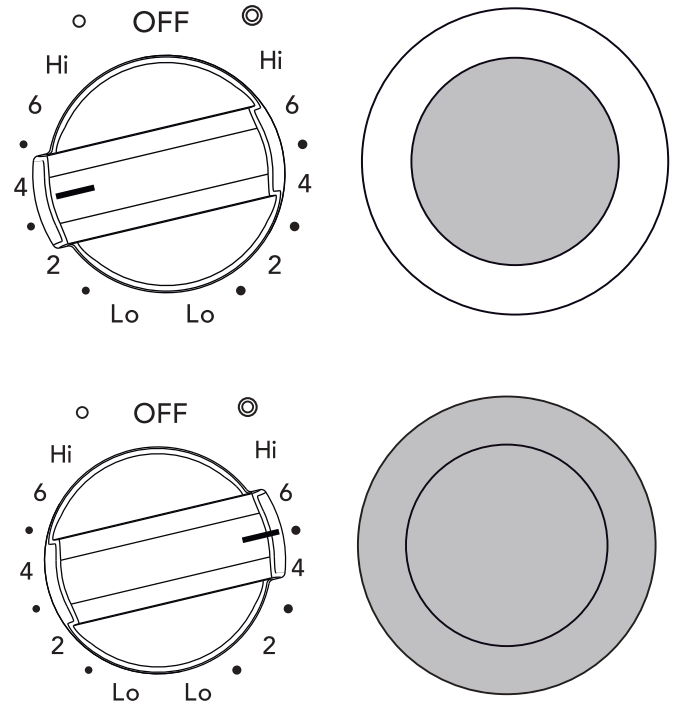

Figure 7: Dual element knob settings
2. Push in and turn the surface control knob clockwise to begin heating both the inner and outer elements. If only the inner element is needed for smaller cookware, push in and turn the knob counter-clockwise (see Figure 7).